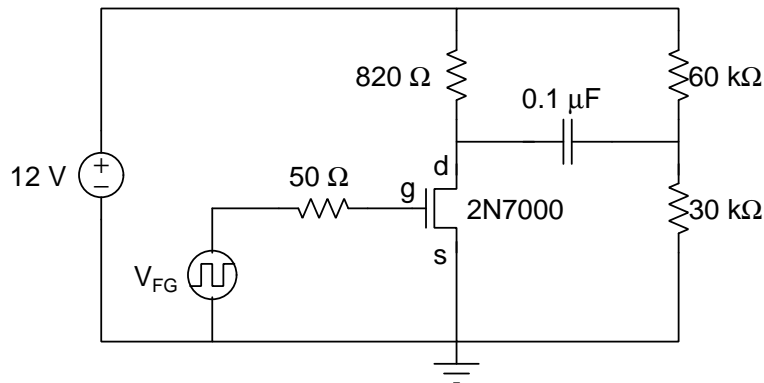

Figure 3: Multivibrator half-circuit.
1. Build the multivibrator half-circuit circuit shown in **Figure 3**.
2. Set the waveform generator (WG) to produce a triangular waveform with a voltage swing from 0 to 5 volts, and a frequency equal to that found in **step 4** of the Pre-Lab. Use the scope to record the voltage at both the gate (G) and drain (D) of the 2N7000 transistor. By examining when these two voltage traces cross, determine the gate voltage that causes the transistor to switch between the on-state and the off-state. Expand the time and voltage scales on the scope to maximize the accuracy of the measurement. Try and measure this gate voltage within  $\pm 50 \text{ mV}$ . This gate voltage will be called  $V_{T0}$ . Try and obtain at least two 2N7000 transistors that have nearly the same  $V_{T0}$  voltage.